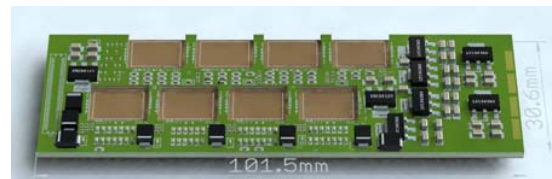

Figure 2: 3D View of equipped STS FEB Board.
- Figure 2 is a 3D rendering of a possible FEB PCB.